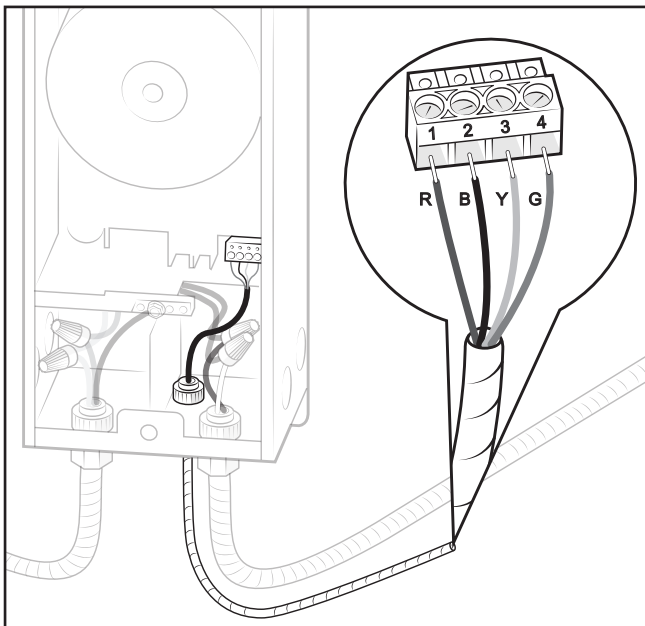

Figure 6. Connect RS-485 Wires
7. RS-485 comes factory wired to the Light Controller. Connect the low voltage RS-485 communication wires to the Aqualink RS automation system. First wire red (R) to 1, black (B) to 2, yellow (Y) to 3, and green (G) to 4 on the connector, see Figure 6.